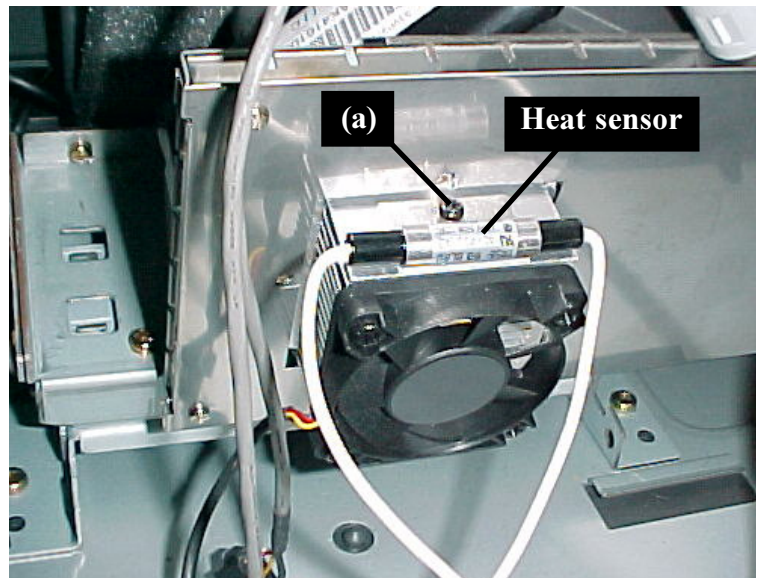

Figure 3-4: DMD Heat Sensor
- DMD Heat Sensor removal (*Figure 3-4*).